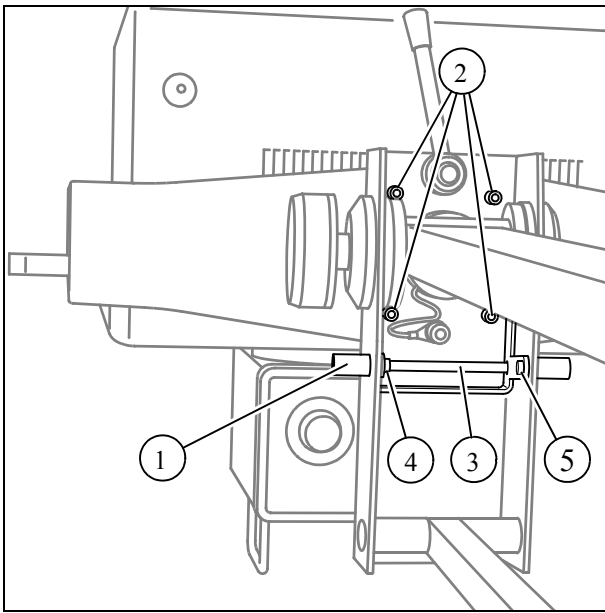

Fig. 5
- Move the support arm into a horizontal position after releasing the locking mechanism (1/Fig.5).
- Tighten the 4 Allen screws (2/Fig.5).
- Check the axle (3/Fig.5) for play and the locking rings (4/Fig.5) for a secure fit.
- Check the nuts of both grip bolts (5/Fig.5), and tighten if necessary.